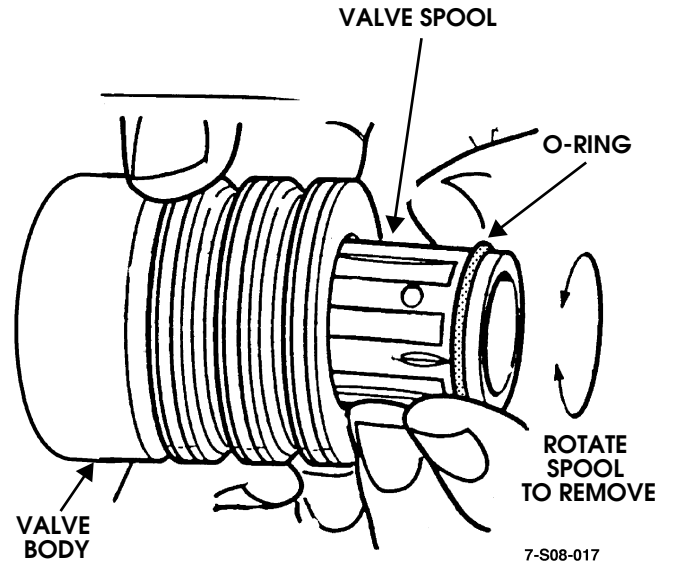

Figure 8-44: Valve Spool Removal
6. Remove spool from valve body with a rotating motion (Figure 8-44).